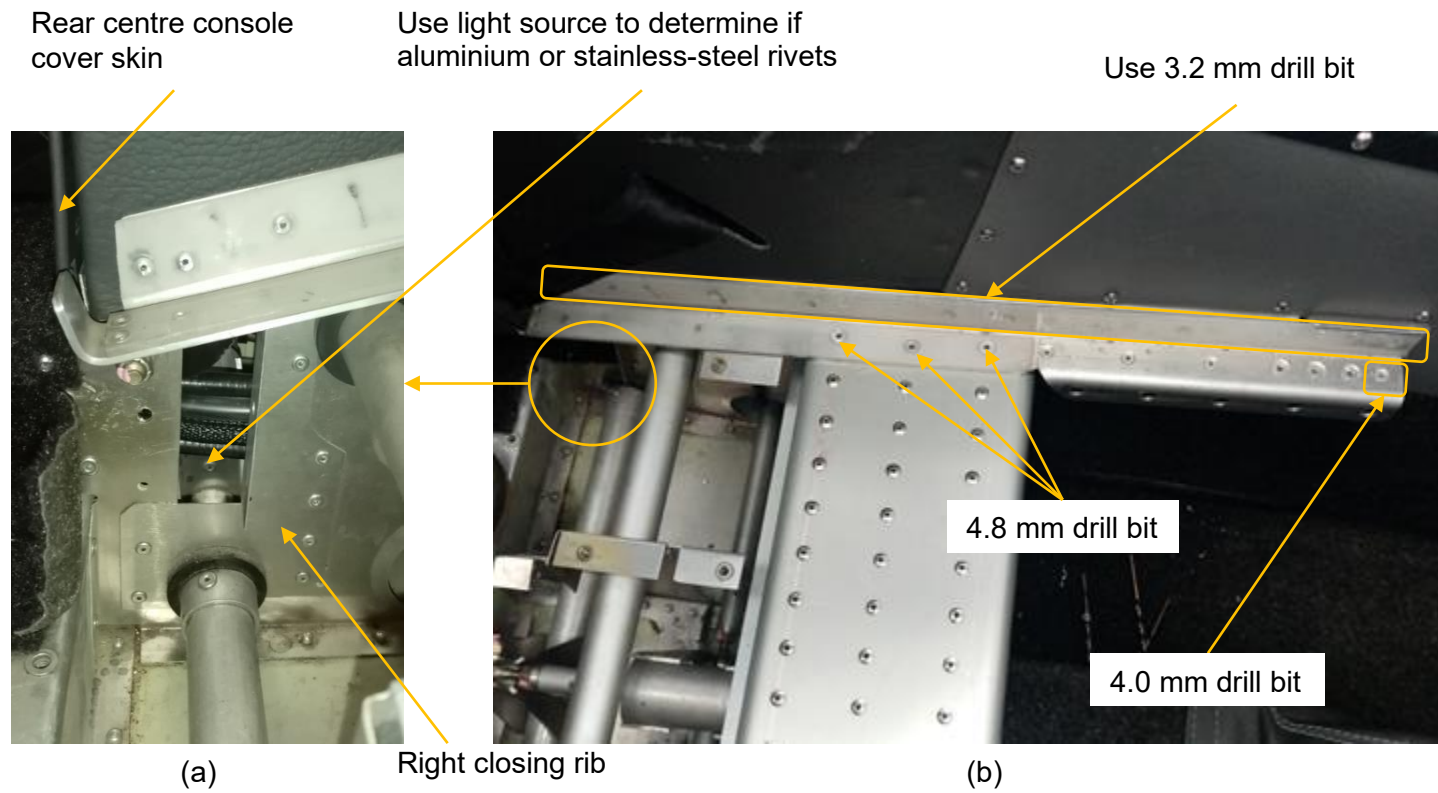
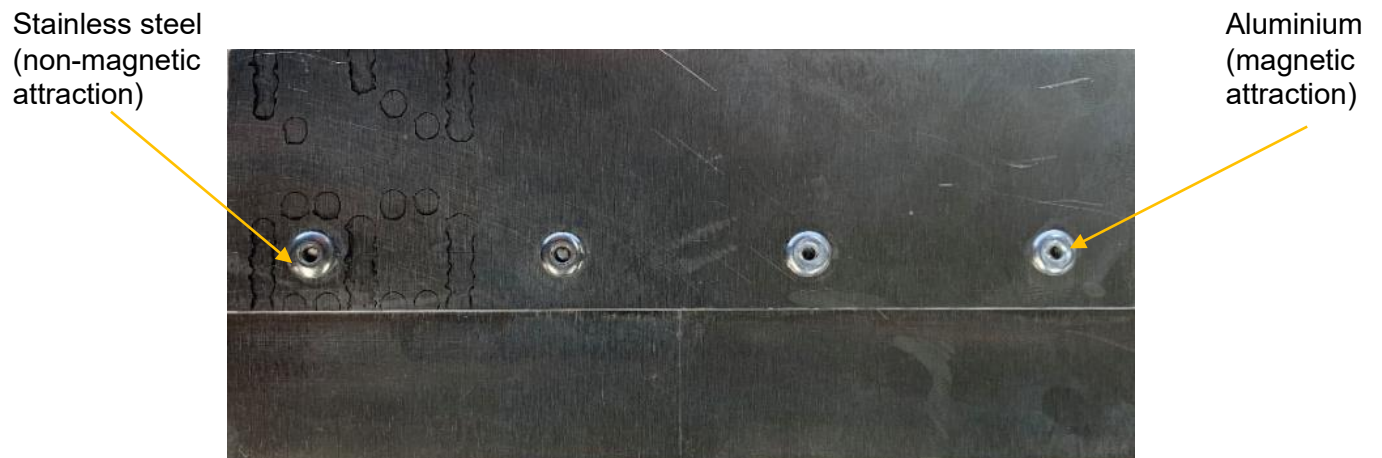
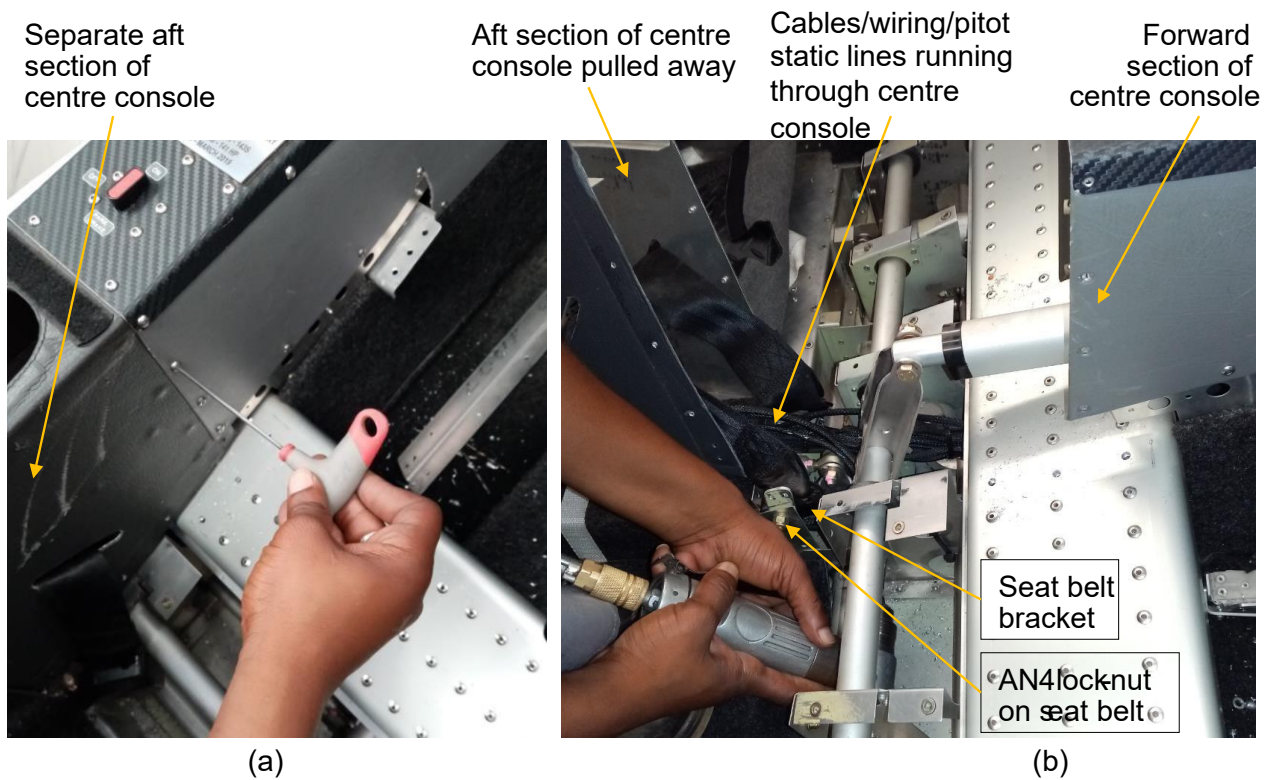

Figure 3 - Region of inspection area and seat rail
Figure 4 – Identification of stainless steel and aluminium rivets
Figure 5 – Disassembly of centre console and removal of CF-RIB-009-R/L-C-0
3. The inspection region when the floor skin is removed is shown in Figure 3. Use the light source to determine if control stop rivets are aluminium or stainless steel. Use Figure 4 as a guide for making the distinction.
4. Alternatively (or in addition to using the light source) use a magnet to identify rivets. The mandrel of the aluminium rivet used is magnetic, so a magnet will attract to the aluminium rivet (see Figure 4).
7. Drill the heads off the countersunk rivets shown in Figure 3(b) with the angle drill (using 3.2 and 4.8 mm drill bits) to remove seat rails.
8. Remove and retain all M3 / M4 screws on the aft section of the centre console to separate it from the forward section as shown in Figure 5(a).
9. The aft section of the centre console must be carefully pulled away so as not to damage wiring and pitot static lines running through the console as shown in Figure 5(b). If resistance is felt separating the aft and forward centre console sections, the headset jacks should be removed with the 14 mm spanner and socket. Be sure to label these cables left and right so that they are refitted in their original positions (see Figure 6).
11. Cut the cable ties that guide the centre console wiring and pitot static tubes (using the side cutter) to reduce their tautness, then use the angle drill and 3.2 mm drill bit to drill heads off the rivets on the closing rib as shown in Figure 5(b). The closing rib on the centre console RH side is shown in Figure 3(a).
12. Use the 7/16" spanners to loosen the AN4 lock-nuts (hardware designation AN365-428A) on seat belt shown in Figure 5(b) so that the seat belt bracket can swivel. This will ensure there is sufficient room for the hand riveter to be pressed firmly against elevators' centre control arm channel when installing the 3.2 x 8 mm stainless steel rivets (See Figure 7).
18. Install the controls closing ribs (CF-RIB-009-R/L-C-0 shown in Figure 3(a)) using the 3.2 mm clecos to align the holes. Assemble with (20) 3.2 x 8 mm aluminium domed rivets.
19. Return the aft section of the centre console using the 2 mm / 2.5 mm Allen key and install the M3 / M4 screws (see Figure 5(a) which shows disassembly).
20. Return the seat rails, including the plastic plates, using clecos to align the holes before riveting. Use the hand riveter, two 4.0 x 10 mm and six 4.8 x 15 mm countersunk aluminium rivets to assemble the seat rails. In addition, install the (18) 3.2 x 10 countersunk aluminium rivets on the upper rails (see Figure 3(b)).
21. Return the rear centre console cover skin and the floor skin shown in Figure 3(a).